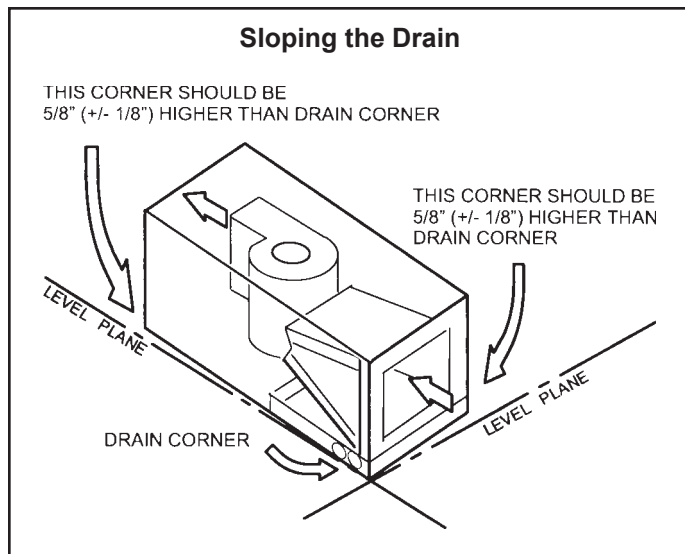

Figure 10
3. Set unit so that it is sloped toward the drain pan end of the unit (see Figure 10).
Make sure the unit is sloped (similar to the slope shown in Figure 10) so that the drain pan will empty completely without water standing in the pan.